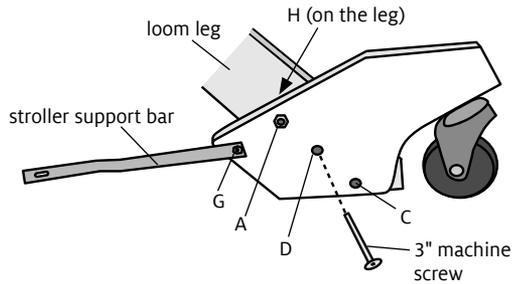

FIGURE 3
3. *Install the caster blocks to the back legs and the rear leg brace.* Remove the truss-head bolt (B) from the back leg and the rear leg brace. This time you will install the caster block with the new 3" machine screw through the center hole (D) in figure 3. Tighten the bolt firmly into the barrel nut. Repeat for the other rear leg.
bar (S) over the bolt so that the jog in the bar points inward. Secure with a lock nut. Tighten the lock nut, allowing the support bar to pivot (figure 3). Repeat for the other rear caster block.
7. *Using the stroller.* Fold the loom. Tighten the fold-up knobs and secure the slide lock bars to prevent the loom from opening. You will notice that the loom is now sitting on its stroller wheels. Remove the wing nut from the bolt at (G) on the front caster blocks. Place the slots at the front end of each metal support bar over these bolts, replace the wing nuts and tighten.